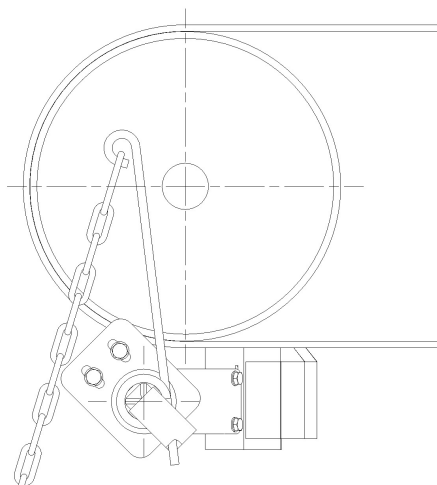

Fig 2
1.	The Arcus 9800 is placed below the drive pulley with the tips as shown in the drawing fig. 2.
2.	Slip the holders (6), the PU-bushes and the hose clamps onto the beam (5).
7.	Mount the torsion lever arm (8) onto the fixing plate (7). Make sure that the short spring pin locks in the notch on the fixing plate.
8.	Insert the fixing plate (7) in the beam (5). Drill a hole ($\varnothing 7$ mm) right through the square tube and lock the fixing plate (7) using an M6 x 50 mm bolt.
9.	Weld the toothed washer to the frame. Set the lever arm (8). and hook the snap hook onto the toothed washer.